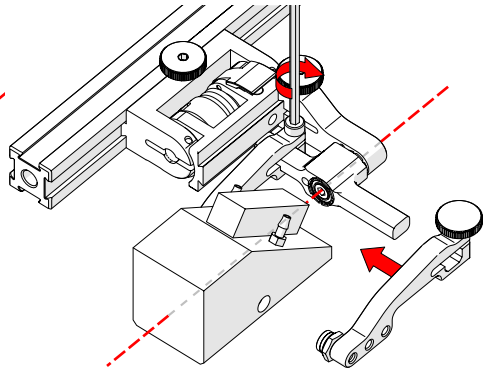

Fig. 40 - Place wedge
TIP: The probe holder yoke can accommodate many different probe and wedge sizes of varying widths. It is best to centre the wedge with the yoke's pivot axis to reduce wedge tipping when scanning. Position the inner probe holder arm with the yoke's centre (Fig. 40).
7. Position the wedge on the inner probe holder arm (Fig. 40).
8. Tighten the arm clamp screw (Fig. 40).